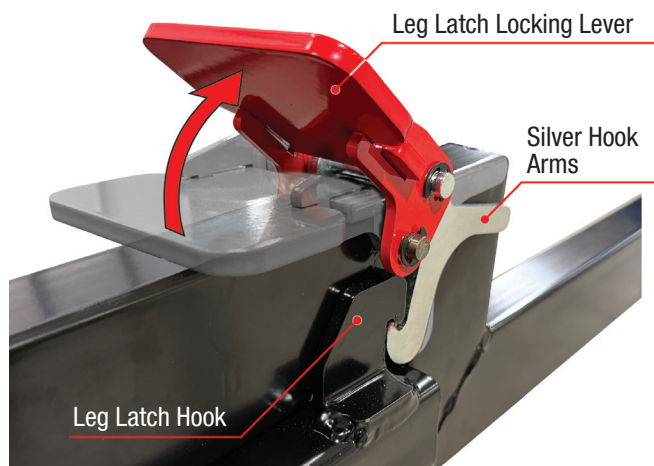

Figure 6-9: Unlocking Legs
1. Unlock each leg by lifting the red leg latch locking lever and the silver hook arms to disengage from the leg latch hooks (see Figure 6-9).